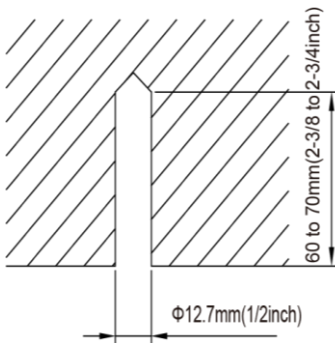

Fig.4.2
- (1). Install the bolts to the ceiling at a place strong enough to hang the unit. Mark the bolt positions from the installation template. With a concrete drill, drill for 12.7mm (1/2inch) diameter holes (Fig. 4.2).